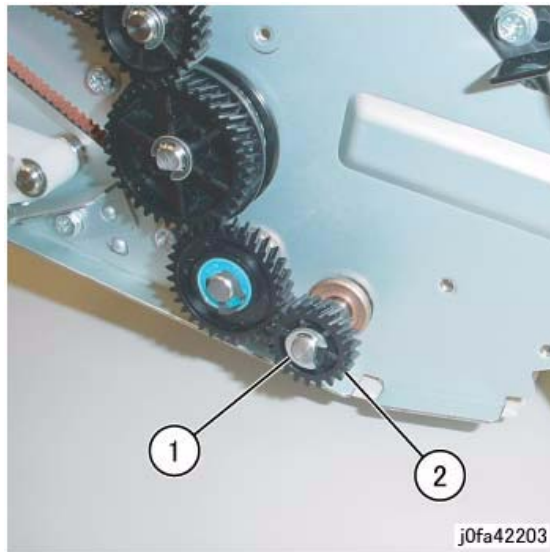

Figure 3 Removing the Gear (j0fa42203)
5. Remove the rear Gear. (Figure 3)